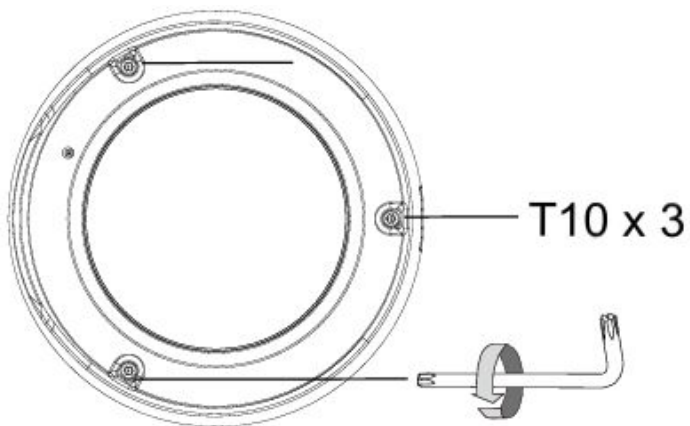

Figure 1-2
**Step 2** Remove the dome cover from the camera body. See Figure 1-2